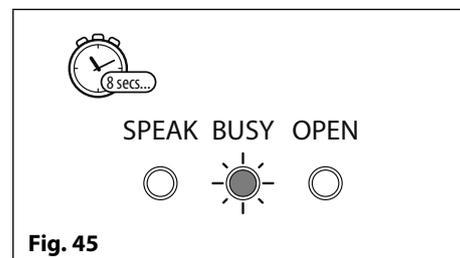

Fig. 45
5. After approximately 8 seconds the busy LED will start to flash as shown in **Fig.45**;
10. After the system has been tested and is working correctly, move back the module support frame **(H)** carefully and then fix it to the surface box **(C)** using the screwdriver provided **(P)** (using the torx end) and the torx pin security screws provided **(R)**, as shown in **Fig.45**. **Note: do not over tighten the screws more than is necessary.**